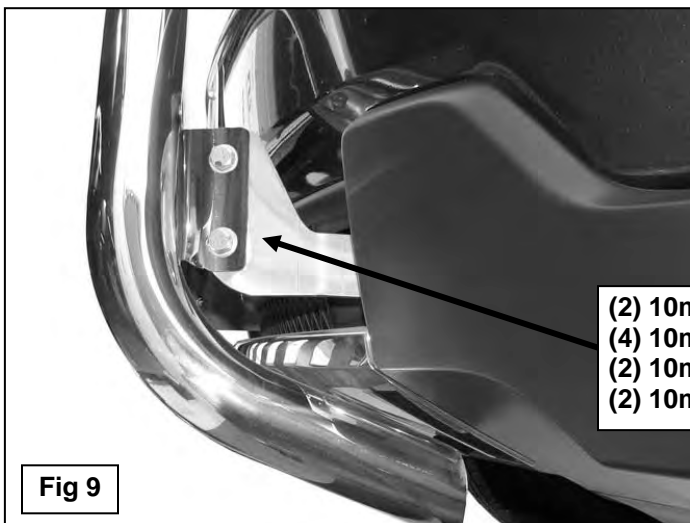

Fig 9
4. With assistance, hold the Bull Bar up to the outside of the Mounting Brackets. Attach the Bull Bar to the Mounting Brackets with the included (4) 10mm x 35mm Hex Bolts, (8) 10mm Flat Washers, (4) 10mm Lock Washers and (4) 10mm Hex Nuts, **(Figure 9)**.